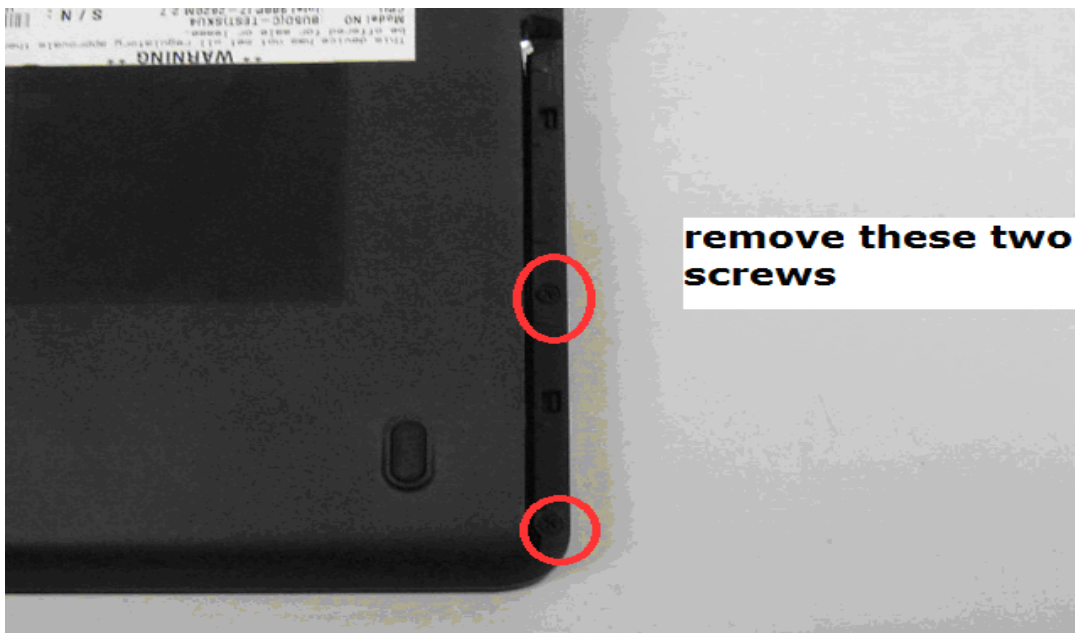

Figure 4-6-3 Remove the screws underneath ODD module
5. Remove SCREW M2.5*3.0F 2PCS underneath ODD module (Figure 4-6-3)